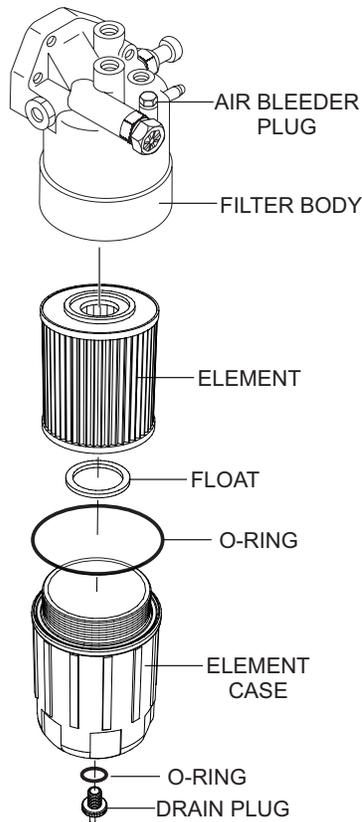

Figure 64. Fuel Filter Replacement
1. Using a **filter wrench**, remove the **element case** from the **fuel filter body** (Figure 64).
2. Wipe the inside of the **filter body** (Figure 64) with a clean cloth to remove any foreign matter or debris that may have accumulated.